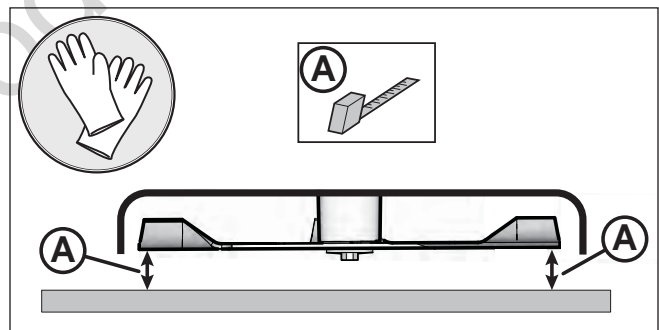

Figure 44. Checking The Blade Height Adjustment
7. Position the outside mower blades so that they face front-to-back (Figure 44).